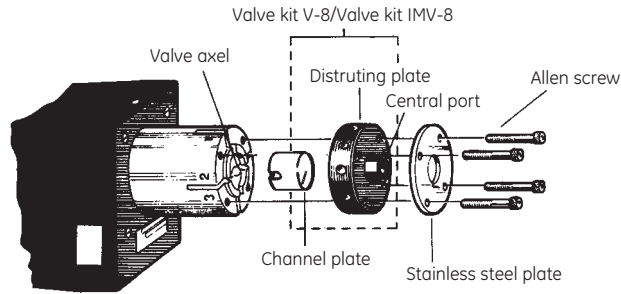

Fig 9. Disassembled Motor Valve MV-8/IMV-8.
The valve can be cleaned either by pumping solvents through it, or if that is not efficient enough, by disassembling the valve and placing the channel plate and the distributing plate in an ultrasonicator. Suitable cleaning solvents are water, ethanol, 75% acetic acid, 0.2 M NaOH and detergents. When using cleaning agents other than water, always rinse the valve with water as the final step. Disassembly, see Figure 9.
6. Place the channel plate and the distributing plate, (Fig 9) into an ultrasonicator with an appropriate wash solution. These two parts are also the only parts likely to need replacement. They are supplied together as spare parts in the Valve V-8 kit (Code No. 19-7806-01)/Valve Kit IMV-8 (Code No. 18-4595-01). Replace these plates when worn.